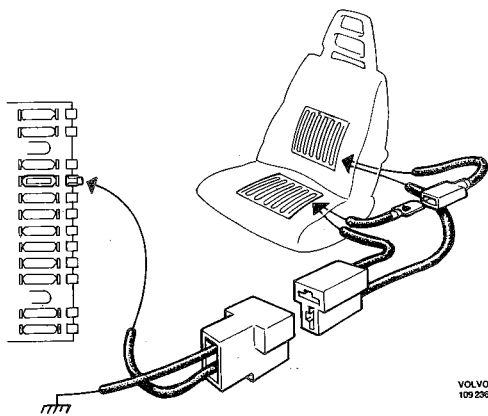

Fig. 8-65. Wires for heater pads
- 18. Attach seat cushion to the seat reclining mechanisms. Connect the wires between the seat back and cushion, see Fig. 8-65.
- 19. Install the seat in the vehicle and connect the wires at the junction box, see Fig. 8-65.